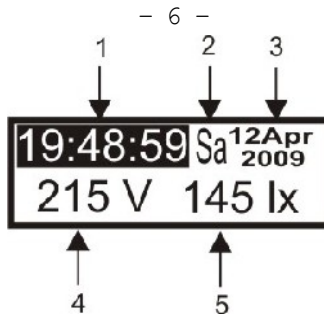

Figure 2.2 - Current time, voltage and illumination display window view
- the current time, measured circuit voltage and photo sensor illumination level display window (fig. 2.2);